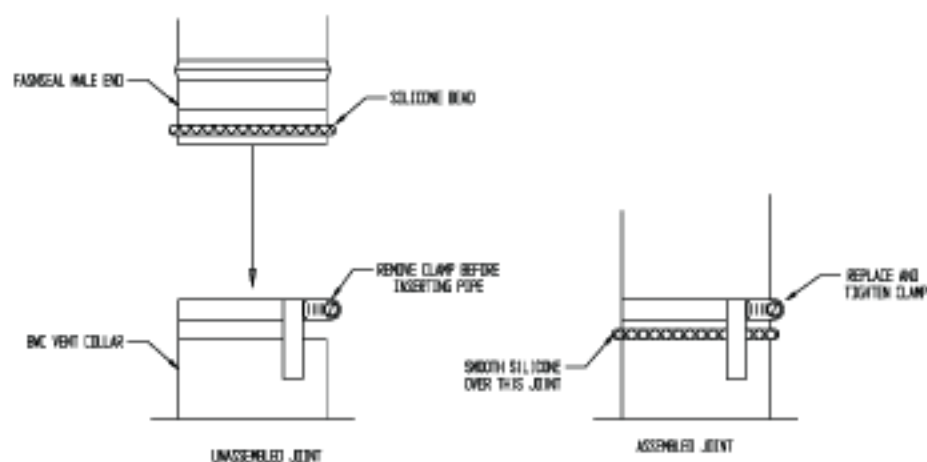

FIGURE 6.10: FASNSEAL CONNECTION TO VENT COLLAR
- b) Remove the hose clamp shipped on the BWC vent collar. Bend the three hose clamp tabs on this collar outward slightly. Clean the exterior of the male end of the first piece of pipe and the inside of the vent collar on the boiler. Remove dirt, grease, and moisture from the surfaces to be sealed. On the male end of the pipe, apply a 1/4" wide bead of high temperature silicone approximately 1/4 inch from the male end of the pipe. Insert the male end of the pipe into the boiler vent collar until it bottoms out. Apply an additional bead of silicone over the outside of the joint and the seams on the vent collar and smooth out (Fig 6.10). Replace and tighten the clamp on the vent collar.